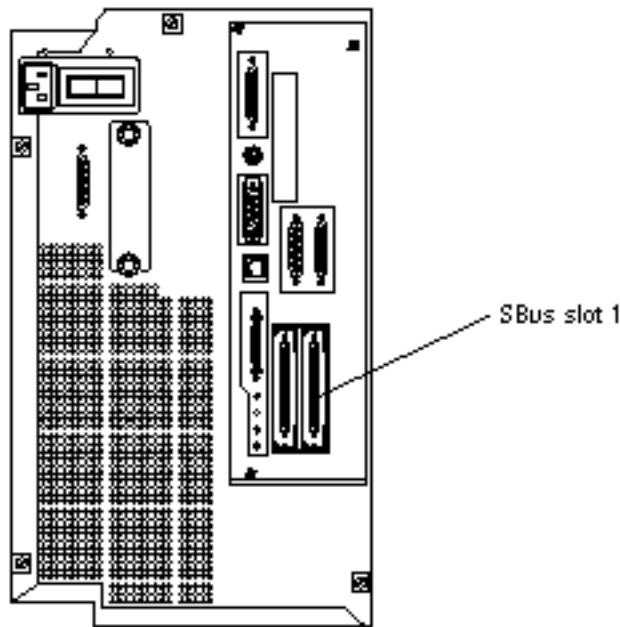

Figure B-1 Connecting an External Disk Enclosure to the Netra NFS Server
1. Verify that you have a Fast-Wide SCSI card installed in SBus slot 1 in the Netra 150 server (Figure B-1).
2. **Connect the SCSI cable from the external disk enclosure to the SCSI port on the Fast-Wide SCSI card installed in SBus slot 1 in the Netra 150 server (Figure B-1).**